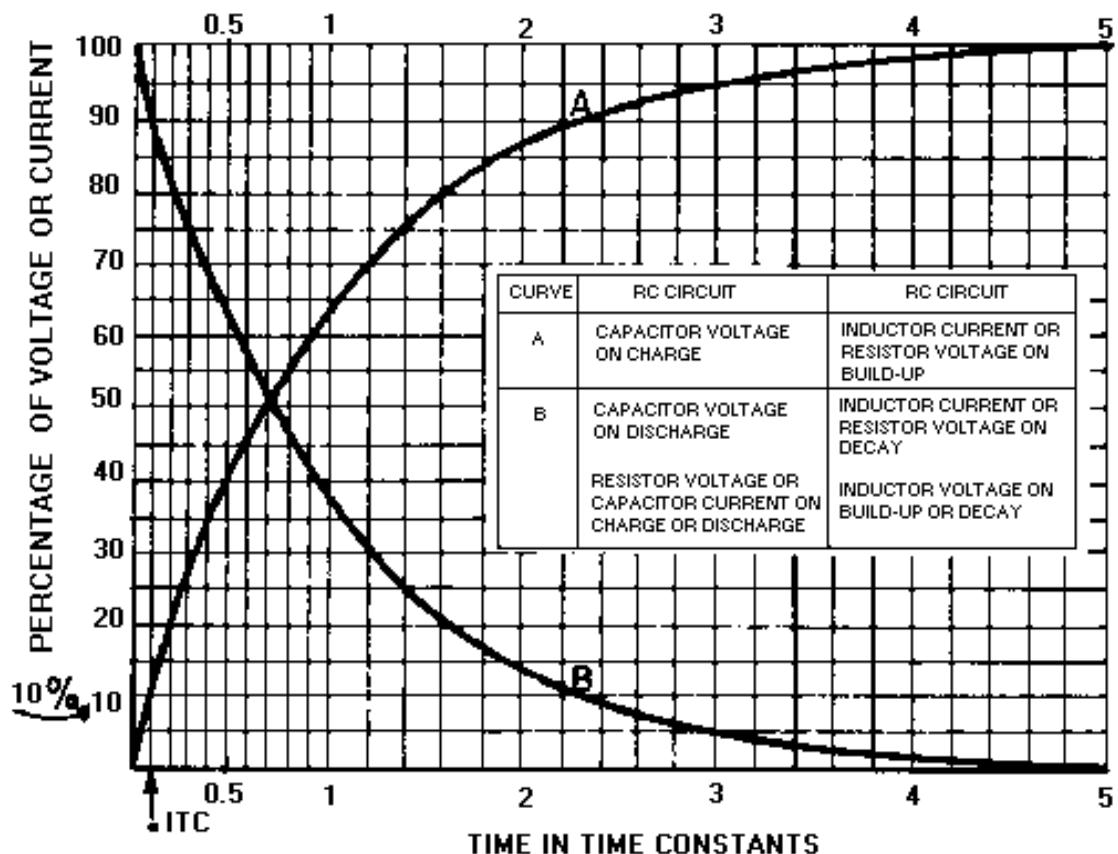

Figure 3-39.—Universal Time Constant Chart.
By selecting the sizes of R and C, you can have a time constant of any value you desire. Further, by controlling the time S1 remains closed, you can generate a sawtooth of any duration. Figure 3-39 is the Universal Time Constant Chart. Notice in the chart that if 1 time constant is 1,000 microseconds, S1 (figure 3-38, view (A)) can be closed no longer than 100 microseconds to obtain a reasonable linear sawtooth. In this example, C1 will charge to nearly 10 volts in 0.1 time constant.
As stated in the discussion of time-base generators, the waveform produced from any sawtooth generator must be linear. A LINEAR SAWTOOTH is one that has an equal change in voltage for an equal change in time. Referring to the Universal Time Constant Chart in figure 3-39, you can see that the most desirable part of the charge curve is the first one-tenth (0.1) of the first TC.
Decreasing the value of the TC (R_2 or C_2), as shown in figure 3-43, view (B), results in an increase in the number of time constants and therefore causes linearity to decrease. Anytime the number of time constants increases, the percentage of charge increases (see the Universal Time Constant Chart, figure 3-39), and amplitude (physical length) increases. Without an increase in gate length, the time that C_2 is allowed to charge through R_2 remains the same; therefore, electrical length remains the same. Linearity is affected by gate length, the value of R , and the value of C ; but is not affected by changing the value of V_{CC} . Increasing the gate length decreases linearity, and decreasing gate length increases linearity. Increasing R or C in the circuit increases linearity, and decreasing R or C in the circuit decreases linearity.
The electrical length (sweep time), which is measured from T₂ to T₃, can be found by multiplying RC times the number of time constants. Refer to the Universal Time Constant Chart (figure 3-39) again to find that 57 percent is 0.83TC. By multiplying 0.83 times R₁C₁, you will find that the electrical length is approximately 21 milliseconds: